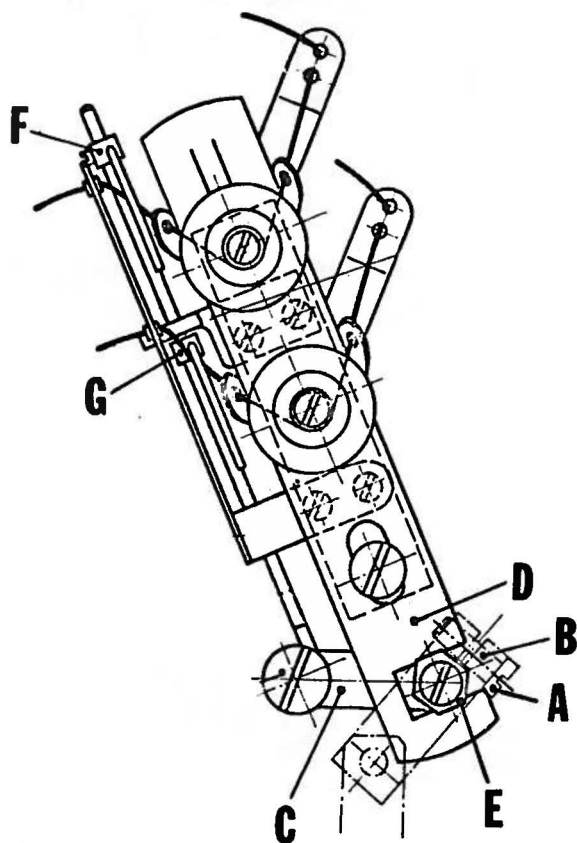

Fig. 11
Loosen clamp screw (A, Fig. 11) in clamp (B) located at the rear of the machine and set lever (C) in a horizontal position, retighten clamp screw. Adjust the tension disc separator (D) by turning eccentric (E) so that the tension is released as soon as the cutting process begins. Adjust thread pull-off hook (F) so that the needle thread is long enough to start sewing immediately on the next stitch. A needle thread tail of $1/16''$ - $1/8''$ on top of the material is permissible. Adjust thread pull-off hook (G) so that the looper thread is clamped securely after it has been severed.